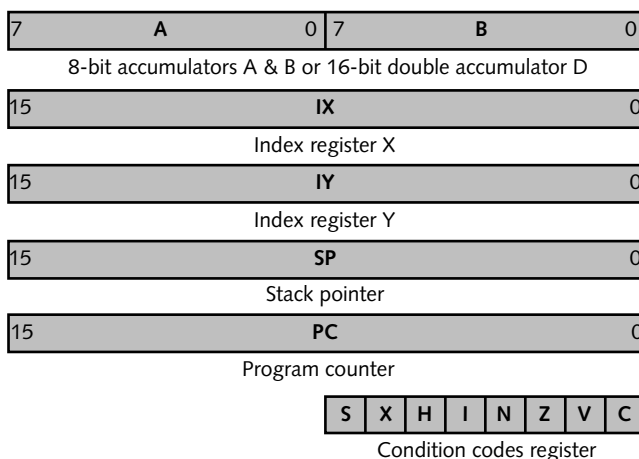

Figure 1. The register set of the 68HC12 is identical to that of its predecessor, the 8-bit 68HC11.
The HC12's register set and programming model are identical to those of the HC11, as Figure 1 shows. The two 8-bit accumulators, A and B, can be concatenated into a single 16-bit register, D. Index registers X and Y are used to reference memory-resident operands, while the stack pointer (SP) and program counter (PC) fulfill the obvious functions.